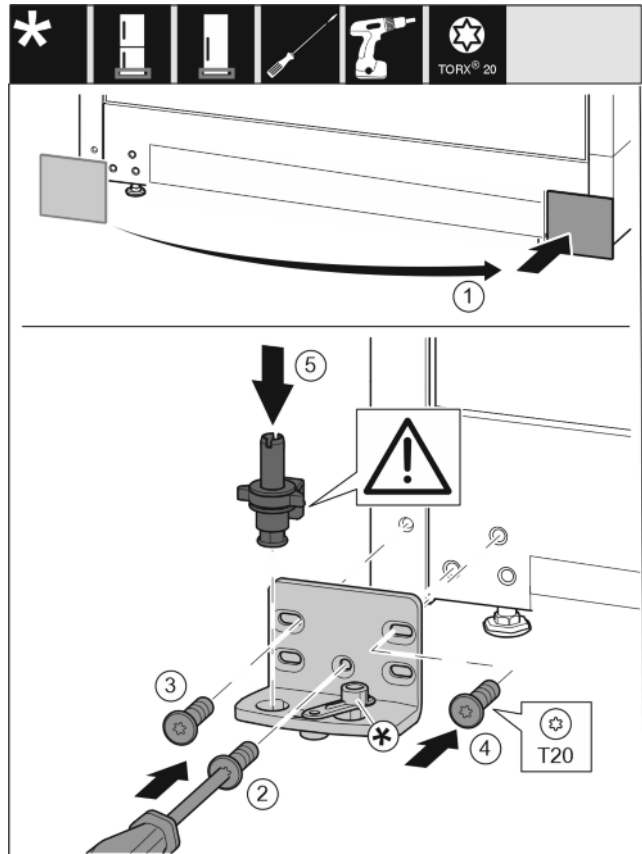

Fig. 15
- ▶ Remove the cover and attach it on the other side. Fig. 15 (1)
- ▶ Place the bearing bracket on the other side and screw it in using the T20 screwdriver. Start with screw 2 at the bottom in the middle. Fig. 15 (2)
- ▶ Screw in screws 3 and 4. Fig. 15 (3,4)
- ▶ Insert the bearing pin completely. Make sure that the latching lug is pointing to the rear. Fig. 15 (5)